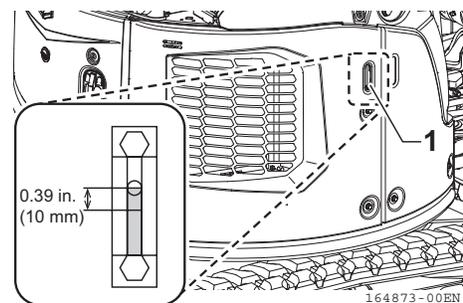

Fig. 3-12
2. Check the oil level by reading the oil level gauge (**Fig. 3-12, 1**). When the ball inside the gauge is located 0.39 in. (10 mm) above the midpoint between the upper and lower limit marks, the oil level is appropriate.